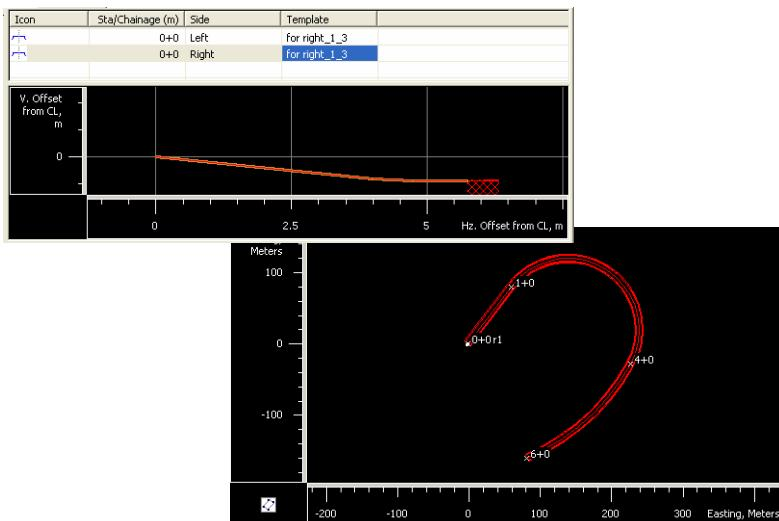

Figure 9-63. Example Using One Template
- Topcon Tools applies interpolation to cross sections from the first station to either the last station of the road (using only one template (Figure 9-63) or to the start station of the next template.